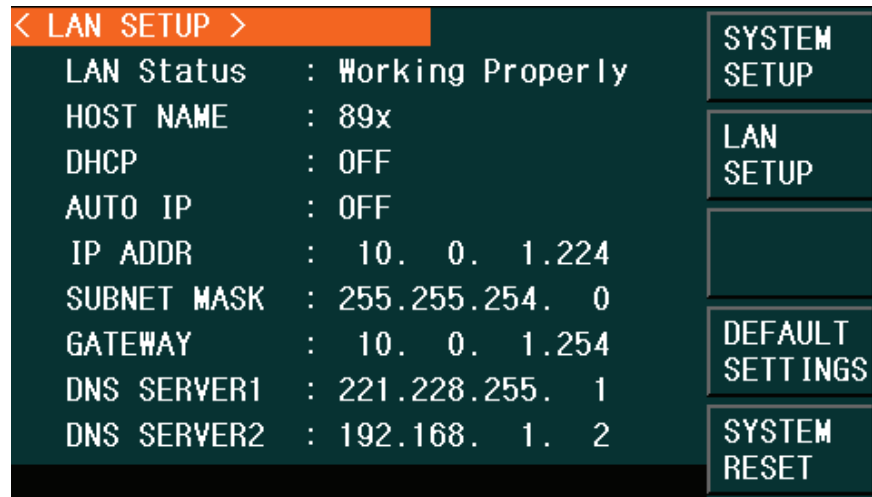

Figure 2
- In the LAN Setup menu (fig. 2), enter the values provided by your Network Administrator